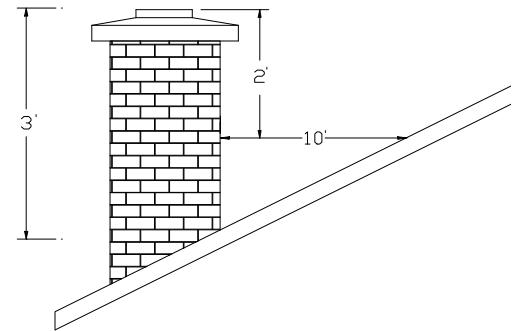

Fig. 12 Minimum Chimney Height
4. A chimney must be the required height above the roof or other obstruction for safety and for proper draft operation. The requirement is that the chimney must be at least 3 feet higher than the highest point where it passes through the roof and at least 2 feet higher than the highest part of the roof or structure that is within 10 feet of the chimney, measured horizontally (Fig. 12).
The chimney must be the required height above the roof or other obstruction for safety and for proper draft operation. The requirement is that the chimney must be at least 3 feet higher than the highest point where it passes through the roof and at least 2 feet higher than the highest part of the roof or structure that is within 10 feet of the chimney, measured horizontally (Fig. 12). The height requirement is necessary in the interest of safety and does not necessarily assure proper flue draft. Use a minimum total system height of 12 feet, measured from the furnace flue collar to the top of the chimney, not including the chimney cap.